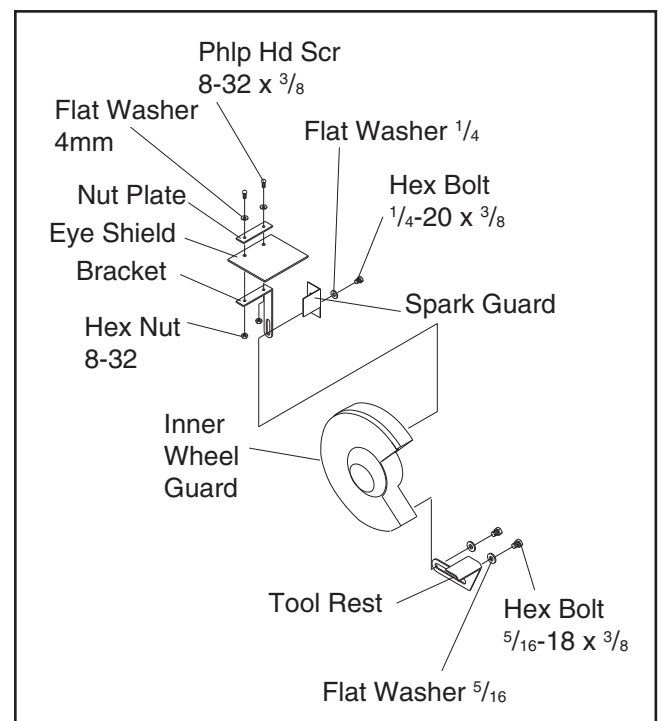

Figure 9. Left eye shield and tool rest assembly.
1. Using the hardware from the inventory list on **Page 10**, assemble the left tool rest and eye shield as shown in **Figures 9 & 10**.